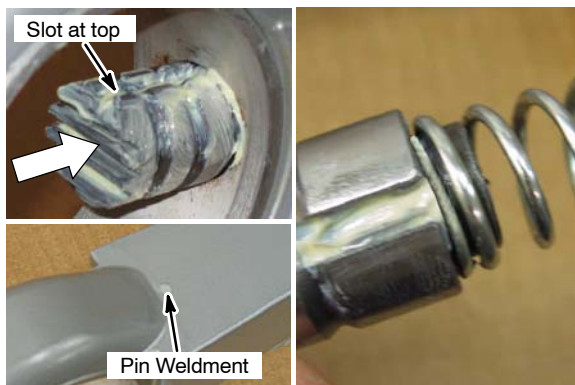

Fig. 13
4. Align the slot on the plunger with the pin and press the plunger into the hole until it engages the spring (Figure 13).